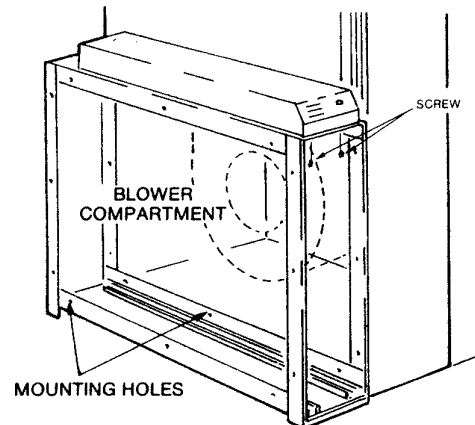

Figure 6
CAUTION: Only a trained, experienced serviceman should install this electronic air cleaner. The power supply should be removed before installation. To remove the power supply, remove the two (2) screws (See Figure 6) in the top front of the cabinet. Remember to keep this hardware for reinstallation of the power supply when the air cleaner installation is complete. A thorough checkout of the unit installation should be completed before unit operation.
6. Locate the cabinet in the cold air return duct so that all of the return air flows through the unit (Fig. 6). If the furnace and air cleaner openings are different,
7. Mounting holes are provided for duct work attachment (Fig. 6). The .140" holes are sized for #8 sheet metal screws, or 1/8" rivets. If the adjoining ductwork is flanged, install the screws so that the screw heads are inside the cabinet. This will prevent damage to pre-filters and optional charcoal after-filter during removal and installation after cleaning.
3. Remove the door from the front of the unit to gain access to the two (2) screws holding the power supply assembly to the top of the air cleaner (See Figure 6).